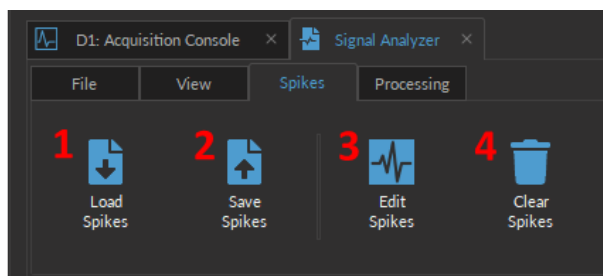

Figure 4.10: Spikes Tab
The **Spikes** tab (Fig. 4.10) is used to save, load and edit data files containing process data within the module.
1. The **Load Spikes** button (Fig. 4.10, 1) will open a file selector window where user can pick which `_Spikes#.doric` data set to import into the module.
2. The **Save Spikes** button (Fig. 4.10, 2) will automatically output a new file containing the processed data in the same folder as the raw data. This new file will share the name of the raw data file, plus a `_Spikes` between the old name and `.doric`. If a spike file of that name already exists, an additional Spikes file is generated as `_Spikes#.doric`, instead of overriding the data.
3. The **Edit Spikes** button (Fig. 4.10, 3) allows users to update the spikes information in the current `_Spikes.doric` file without generating a new Spikes file. Instead, the new and old processed data are combined into a folder of the same name.
4. The **Clear Spikes** button (Fig. 4.10, 4) will erase the Spike file currently loaded in the module.